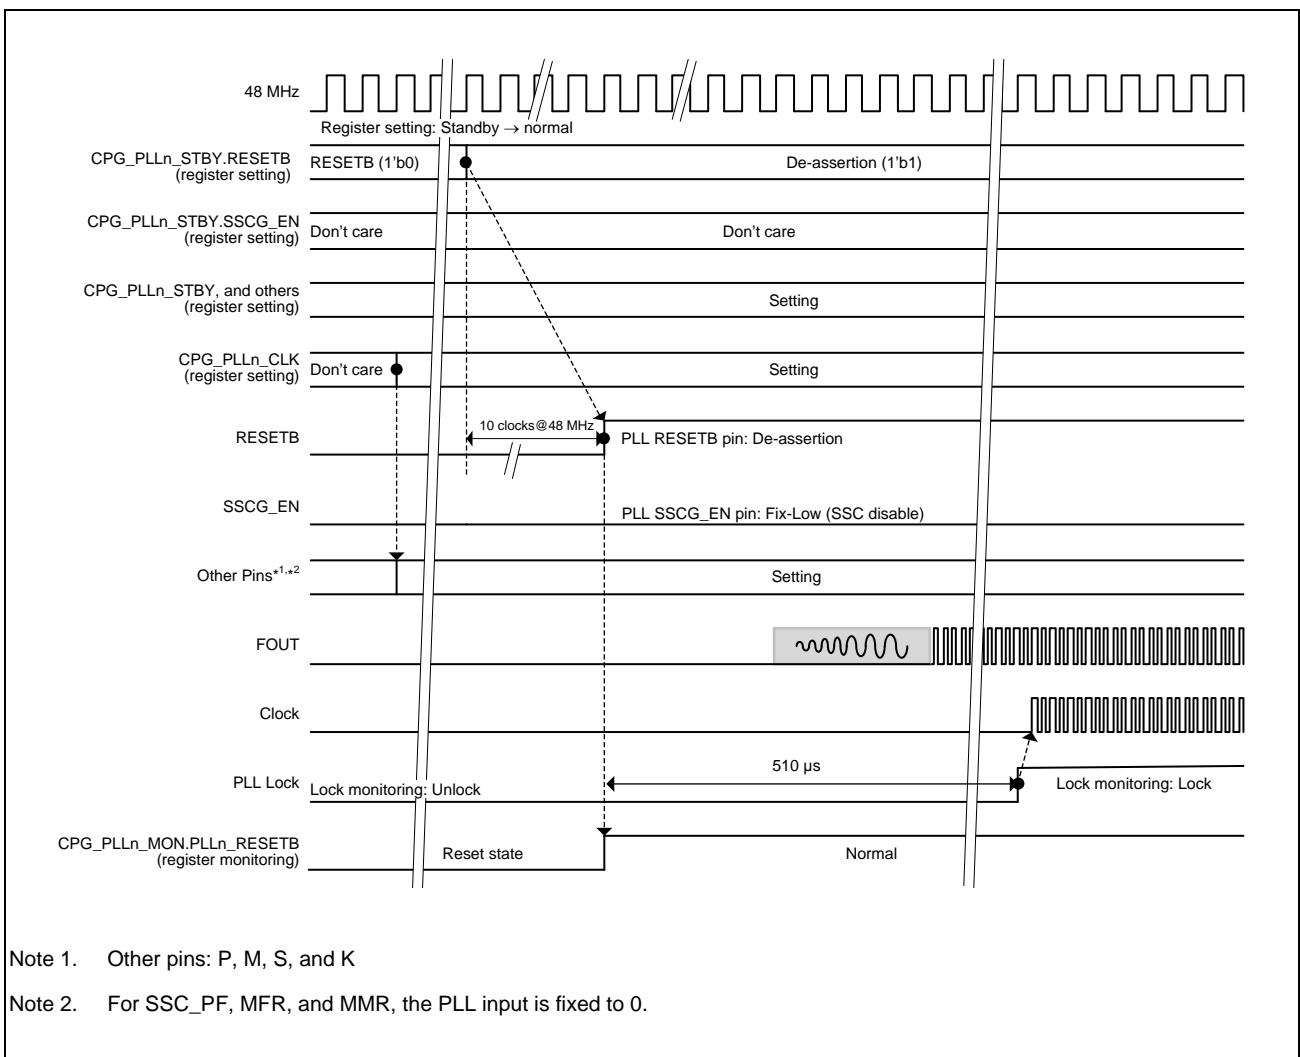
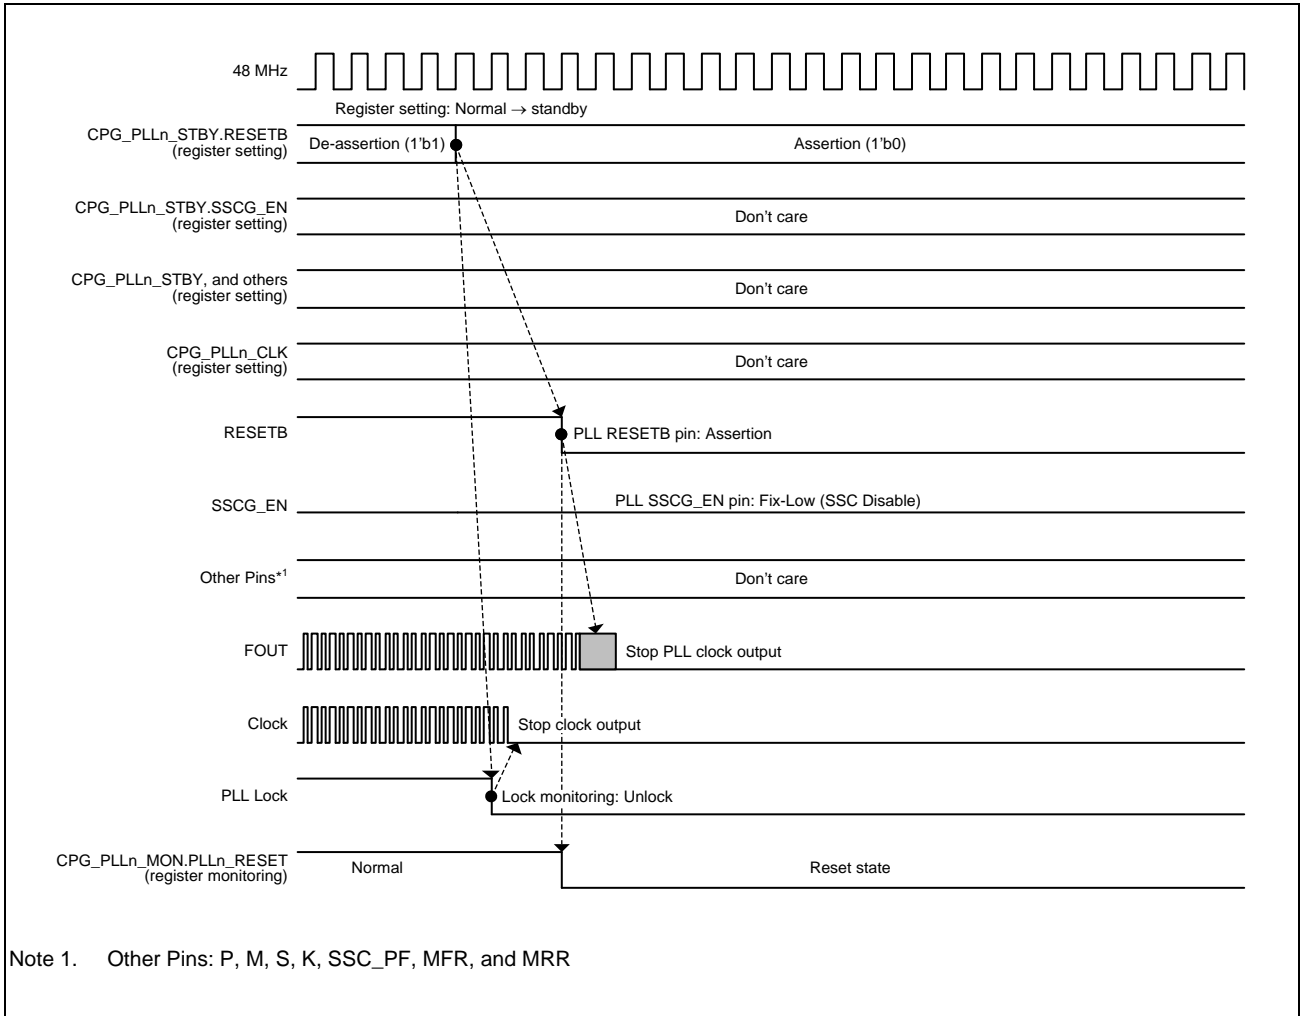

Figure 34.6-3 Timing Diagram for the FRAC PLL: Standby → Normal Operation
Figure 34.6-4 Timing Diagram for the FRAC PLL in Normal Operation → Standby
**Figure 34.6-3** and **Figure 34.6-4** are the timing diagrams for the FRAC PLL.